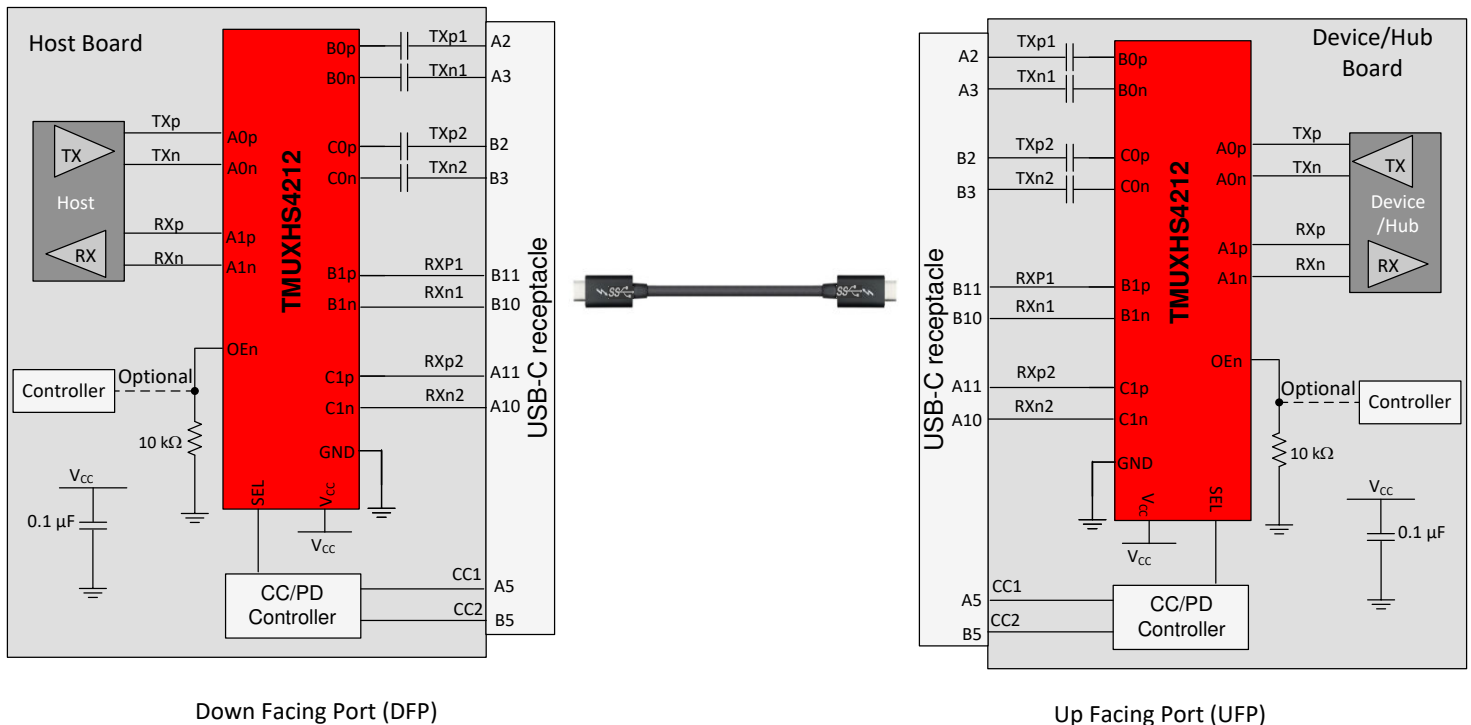

Figure 9-2. USB 3.2 Implementation for USB Type-C Connector
The TMUXHS4212 can be used in USB Type-C implementation to mux USB 3.2 superspeed signals (TX1 and RX1 pairs versus TX2 and RX2 pairs) to accommodate plug flips. In typical use cases, the mux selection is done by a USB Type-C Channel Configuration (CC) or Power Delivery (PD) controller. The device can be used on a USB Type-C DFP, UFP, or DRP port. Figure 9-2 shows two USB Type-C connector applications with both a host and device side. The cable between the two connectors swivels the pairs to properly route the signals to the correct pin. The other applications are more generic because different connectors can be used.
R_{BIAS} (Figure 9-2) when needed	1 kΩ to 100 kΩ